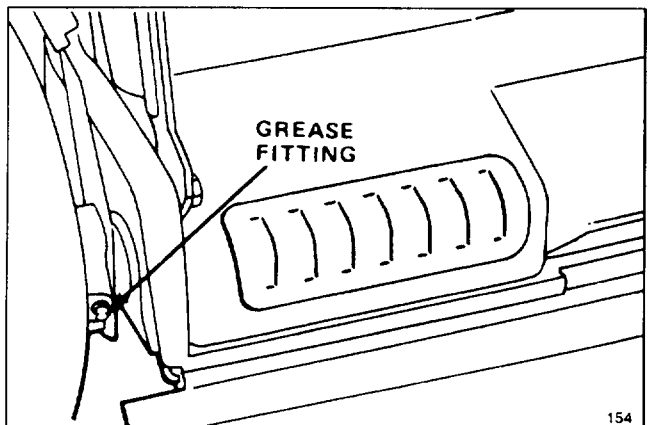

Figure 22
2. Move rear wheel height-of-cut levers to "C" setting. Wipe grease fittings with clean rag (Fig. 22). Install grease gun onto fitting and gently apply two or three pumps of #2 Multi-Purpose Lithium Base Grease.